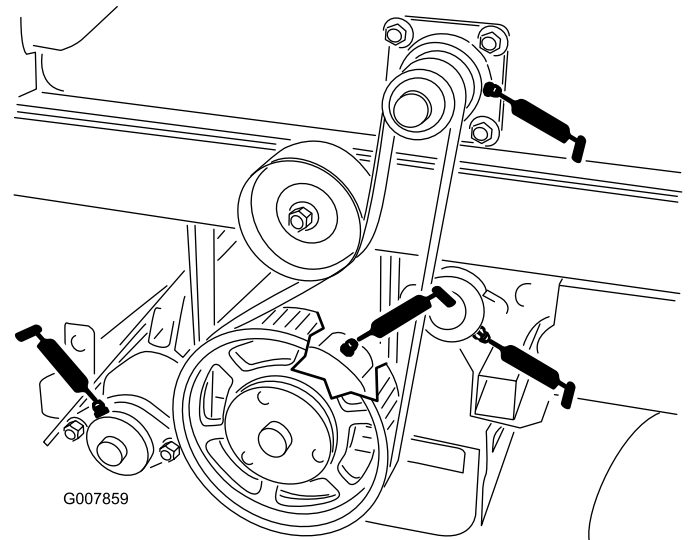
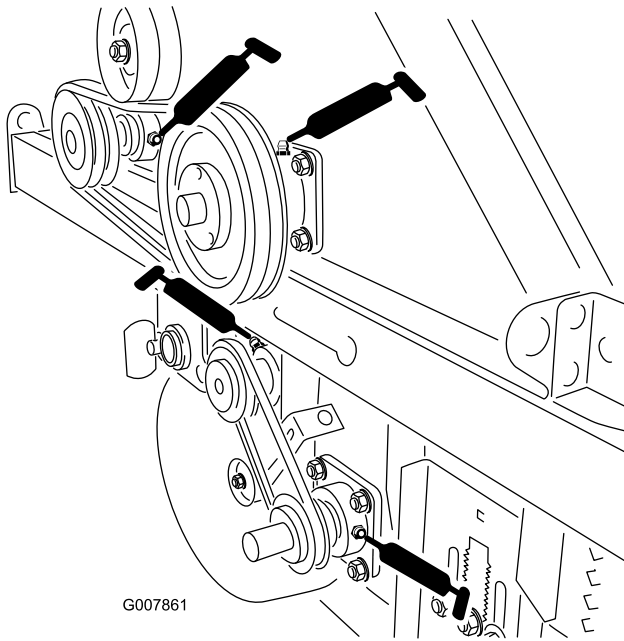

Figure 40
Figure 42
- Chopper assembly (2) Figure 42 and Figure 40.
- Rotating corner (2) Figure 42 and Figure 40.
- Pickup brush (2) Figure 42 and Figure 40.
- Rear roller (2) Figure 40.